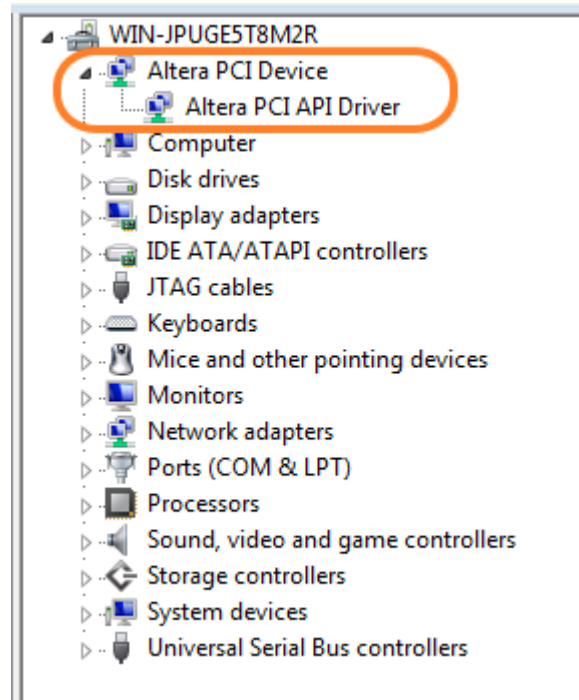

Figure 7-9 Screenshot for PCIe Driver
5. Make sure that Windows has detected the FPGA Board by checking the Windows Control panel as shown in **Figure 7-9**.